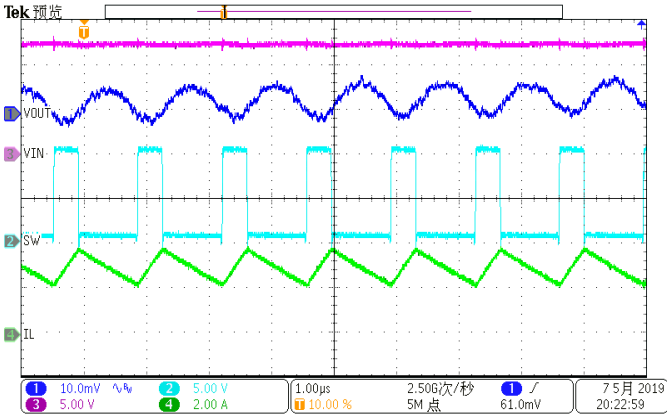

Figure 9. SW node waveform and Output Ripple
An internal 1.5uA pull up current source connected from internal LDO power rail to EN pin guarantees that floating EN pin automatically enables the device. For the application requiring higher VIN UVLO voltage than the default setup, there is a 6.8uA hysteresis pull up current source on EN pin which configures the VIN UVLO voltage with an off-chip resistor divider R3 and R4, shown in Figure 9. The resistor divider R3 and R4 are calculated by equation (3) and (4).